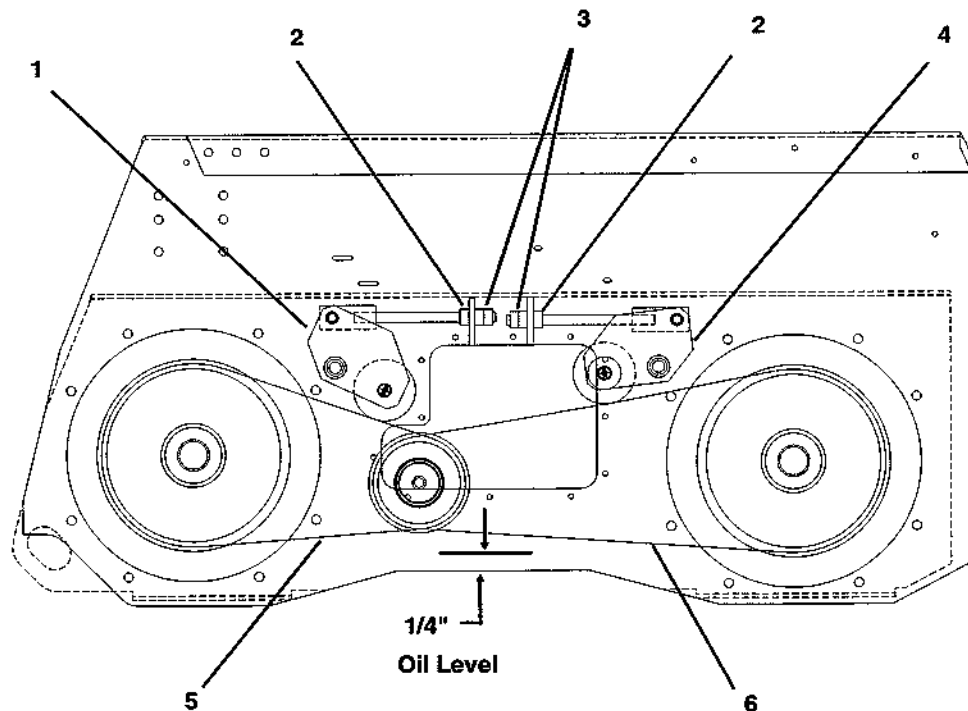

**Fig. 29: 3725/3825 Adjusting Drive Chain Tension**
8. Replenish the Chaincase oil level to approximately 1" deep, if necessary. (see Fig. 29) Then, reinstall both Chaincase Access Covers and Gaskets.